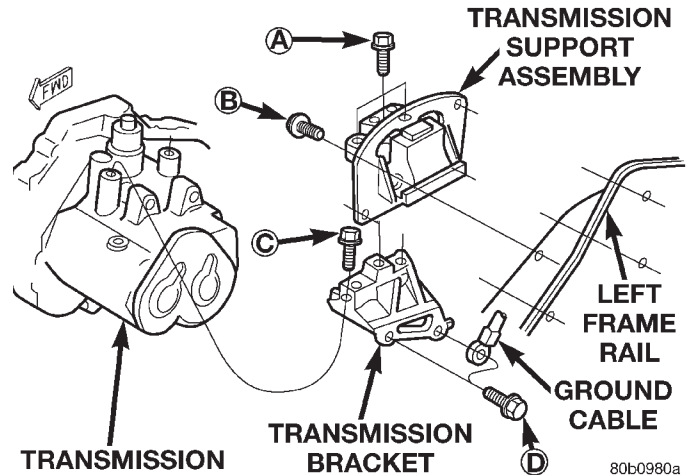

Fig. 16 Left Side Mount—Typical
- (1) Support the transmission with a transmission jack.
- (2) Remove the three vertical bolts (A) from the mount to the transmission bracket (Fig. 16).
- (3) Remove the mount to frame rail fasteners (B) and remove mount (Fig. 16).